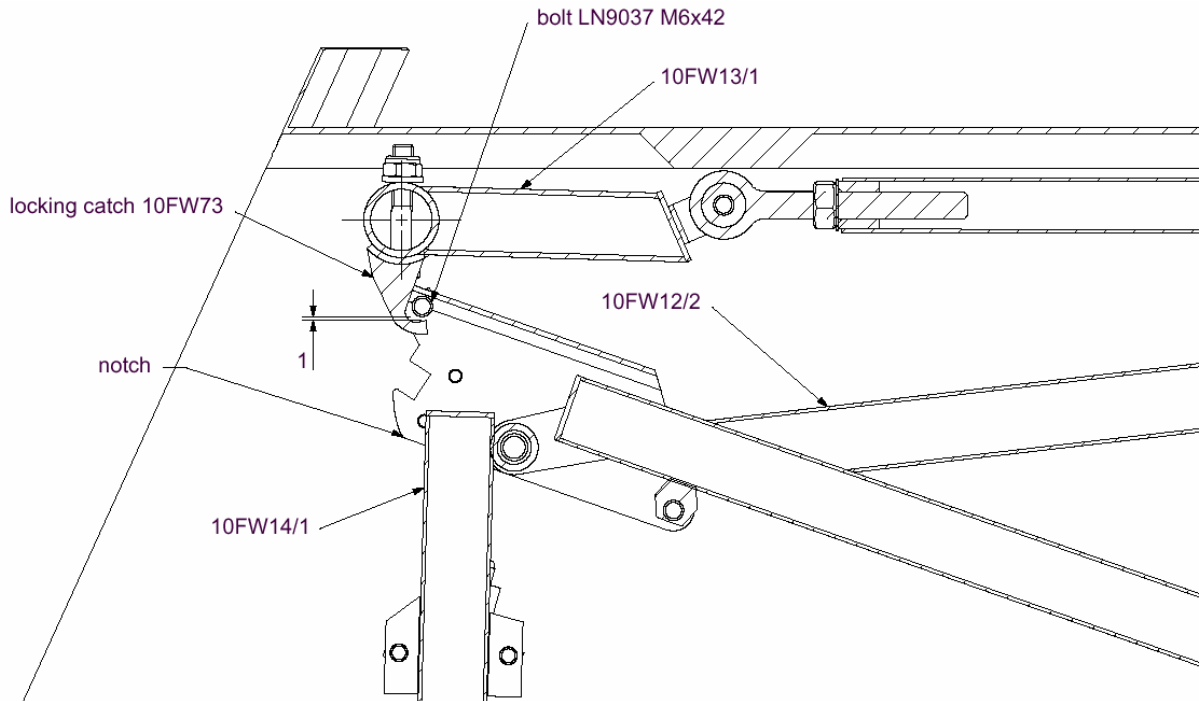

figure 7: Adjustment (Cross section through the landing gear struts)
11. Check if the locking catch 10FW73 engages with the bolt LN9037 M6x42 at the notch.. If the bolt stays below the locking catch (LG fully retracted), file off from the stop block at the rear upper end of the LG box (stop for 10FW12/2) so far that the bolt comes up high enough to enable the locking catch to engage. Rotate the catch if necessary. The distance between the bolt and the locking catch should be approx. 1 mm see figure 7.